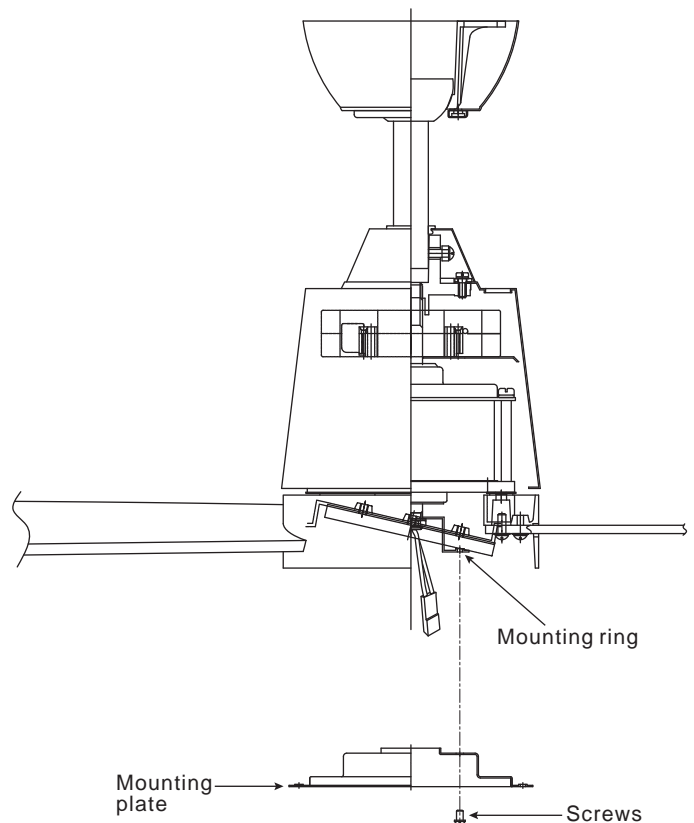

Figure 12
Step 2. Place the key holes on the mounting plate over the 2 screws previously loosened from the mounting ring, turn mounting plate until it locks in place at the narrow section of the key holes. Secure by tightening the 2 screws previously loosened and the one previously removed. (Fig. 12)